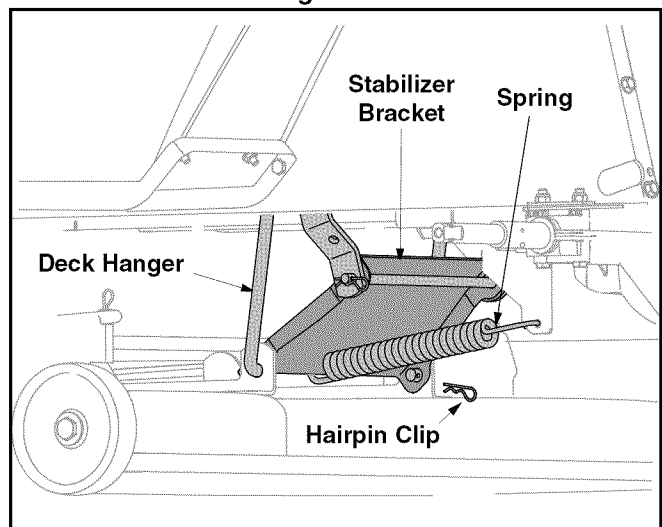

Figure 27
- Gently nudge the deck rearward, and disconnect the spring from the deck stabilizer bracket. See Figure 27.
- Remove the hairpin clips which secure the rear deck hangers to the deck stabilizer bracket. See Figure 27. Retain the hairpin clips.